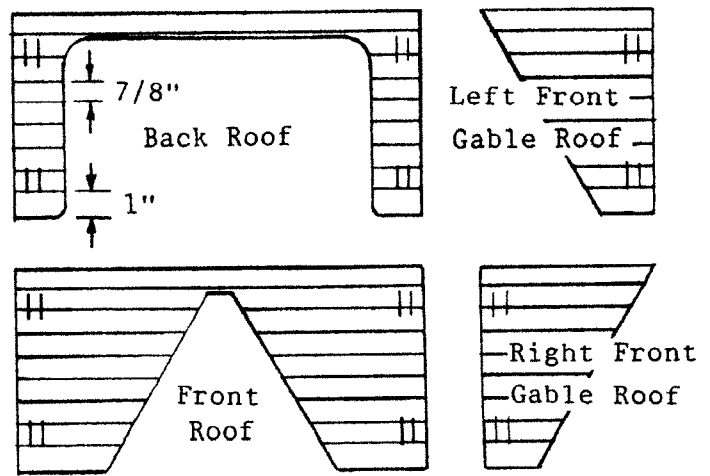

Figure 31
2. Lay all roof parts on the table facing up. Starting at the bottom of the roof parts make marks every $\frac{7}{8}$ " starting 1" from the bottom. Figure 31.